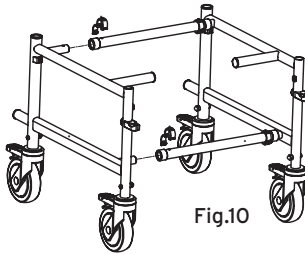

Fig.10
- Connect the newly assembled part to the other side of the frame by using the same two fixing tubes and two additional C-clips as described in the previous point (Fig.10);